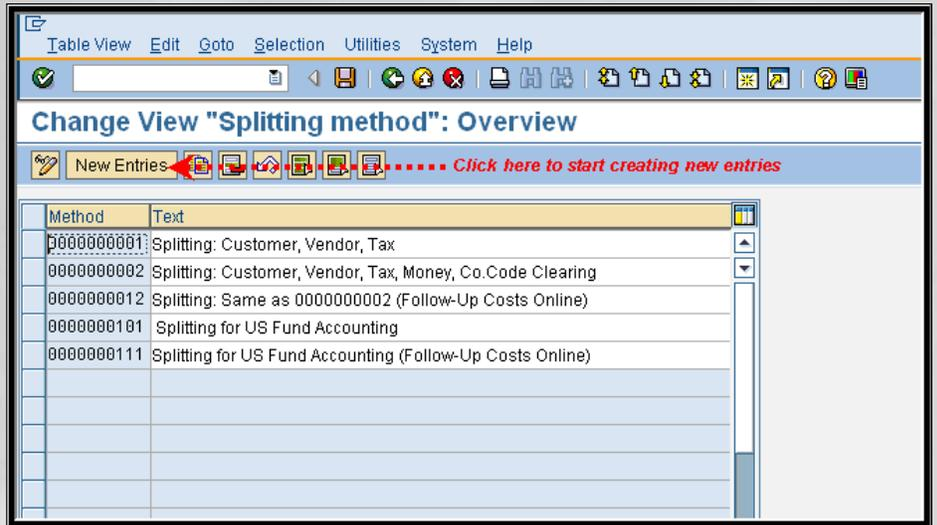

Figure 2: Creating New Splitting Methods
- **Define Document Splitting Method** – SAP provides a few standard splitting methods (as shown in Figure 2). Each of these methods is a composite of various splitting rules. If your analysis reveals that you need to create custom splitting method(s) to suit your business needs, you can do that in this configuration step by clicking on "New Entries" and then assigning a method key and a meaningful text.